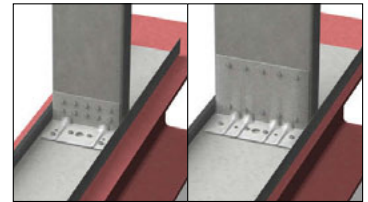

Figure 2 #12-24 screws
- A "#" in the shear column indicates that the shear capacity is limited to 963 lbs for D683 and T683 clips, 1374 lbs for D973 and T973 clips, and 1816 lbs for D685, D975, T685, and T975 clips when using #12-24 self tapping screws to 3/16" A36 steel as shown in Figure 2.